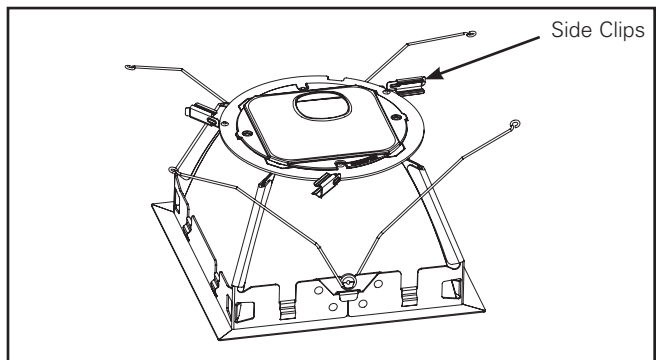

Figure 4
3. Remove trim assembly from protective packaging and rotate side clips (3) outwards. (Figure 4.).